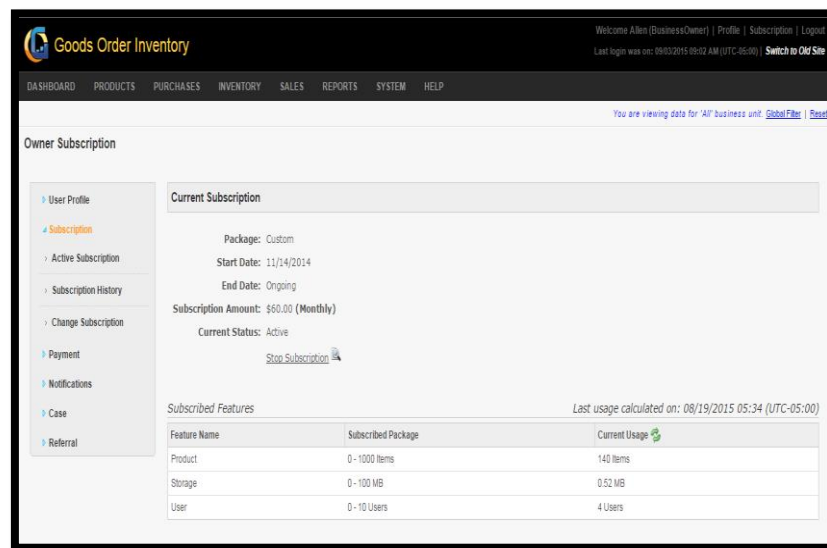

FIGURE 7.21.1
4. A sub menu will slide down; click on the “Active subscription” tab, current subscription details will be displayed by the system on the same page. Snapshot of the page is shown in the (Figure 7.21.1)